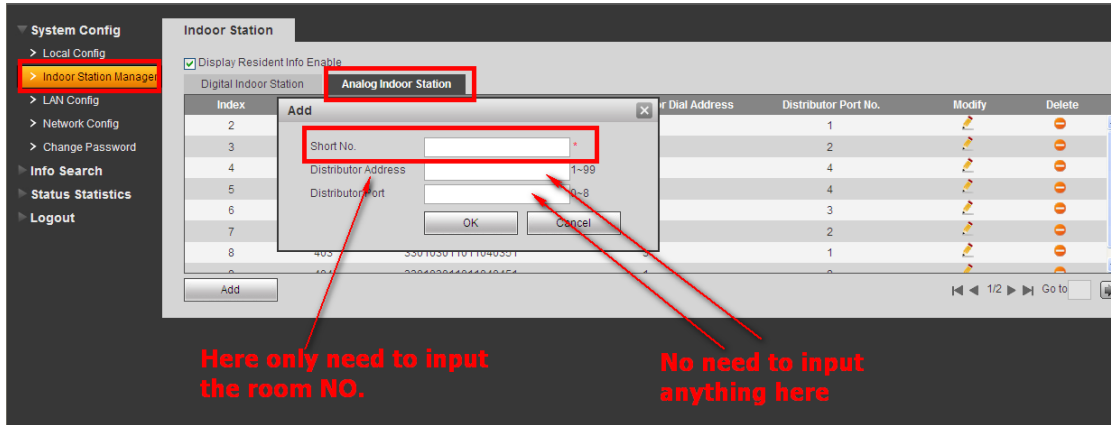

Figure 2-8
Step2 Check Indoor Station Manager> Analog Indoor Station. Add the Room No. in the web interface. See Figure 2-8.